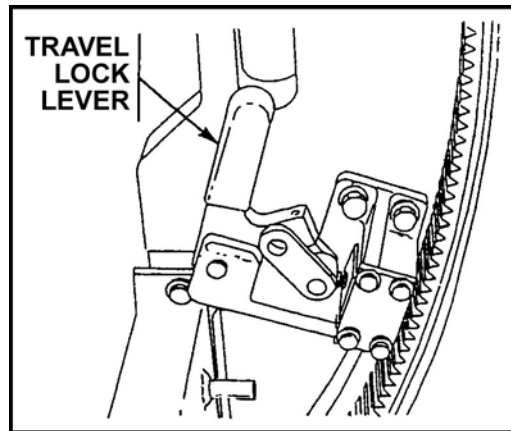

Figure 2. Travel lock.
- d. Release the turret travel lock (Figure 2).